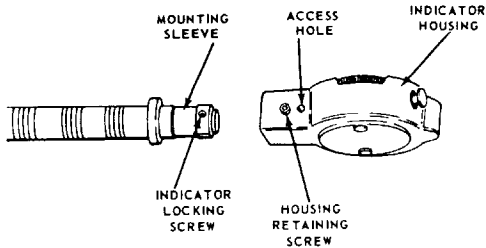

FIGURE 7
3. See Figure 7. Align Indicator Locking Screw in Mounting Sleeve with Access Hole in Indicator Housing. Slide Mounting Sleeve into Housing until Indicator Locking Screw is visible through Access Hole. Tighten Housing Retaining Screw lightly.